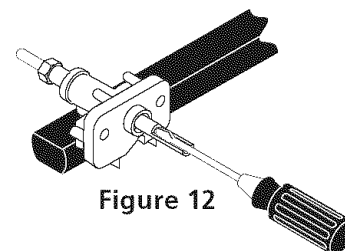

Figure 12
11.4 Adjust the "LOW" Setting of Surface Burner Valves (see Figure 12)